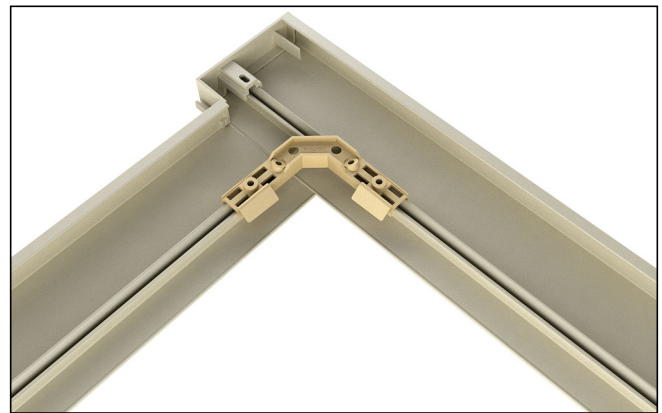
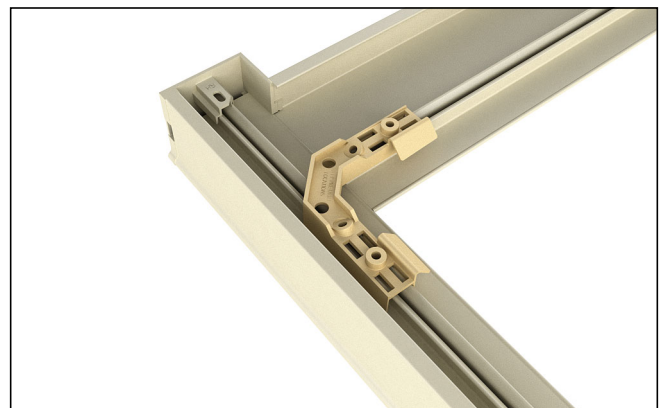

Figure 43
Figure 44
2. Test fit casing parts on flat surface with included corner keys without screws to verify assembly. See figure 43 (header) and figure 44 (sill).